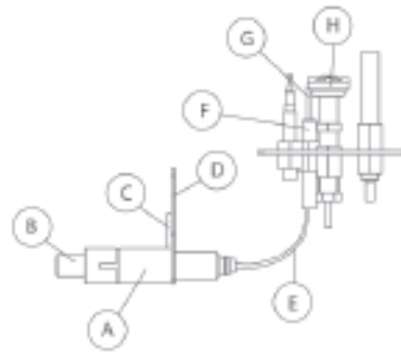

Figure 23. Pilot ignition components.
It is uncommon for the Piezo spark ignitor (fig 23-A) to fail, unless it has mechanical damage. If the spark is not conducted forward, it could be the result of a break in the electrical circuit leading up to the pilot head. The spark is small or weak if there is too much resistance from a bent wire (E), or if corrosion appears at the electrode (G) or the pilot head (H). This could result in insufficient heat to light the gas. Inspect the pilot burner by looking for damage to the individual parts. Check for damaged wires or wires crushed between plate sections of the appliance and check for loose connections.